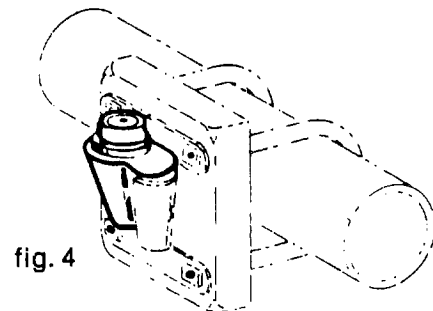

fig. 4
2. The mounting bracket must be installed so that the Milk-o-Meter will be in a level position when in place. The # 030115 Bracket Gage should be used to level the mounting bracket during installation. Place the Gage in the bracket as illustrated, (fig. 4), adjust bracket to level position, then tighten bracket securely. **CAUTION: DO NOT OVER TIGHTEN U-BOLTS. TIGHTEN NUTS ONLY ENOUGH TO HOLD ON PIPE. TOO MUCH PRESSURE CAN CAUSE CLIP EMBRITTLEMENT AND BE SUBJECT TO BREAKAGE.** If pipe or wall are out of plumb, it may be necessary to shim the clip to make it level.